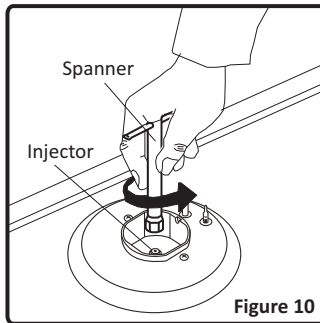

Figure 10
- Unscrew the injectors. For this, use a 7mm spanner(Figure 10).